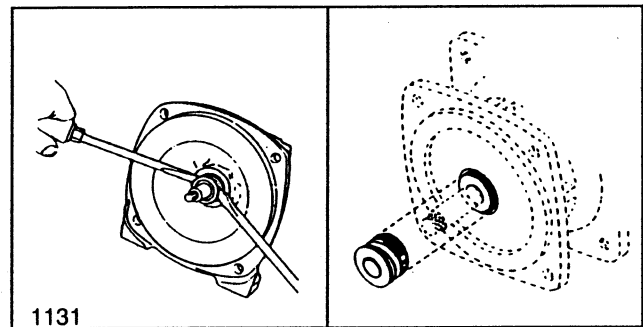

FIG. 7.
1. Lightly lubricate shaft for easier removal of seal. Using two screwdrivers positioned opposite each other, pry the rotary portion of the seal from the shaft. See FIG. 7.
4. To install the rotary portion of the mechanical seal, place it over the shaft with the carbon side facing in, and press until it bottoms out against the stationary portion. See FIG. 7.